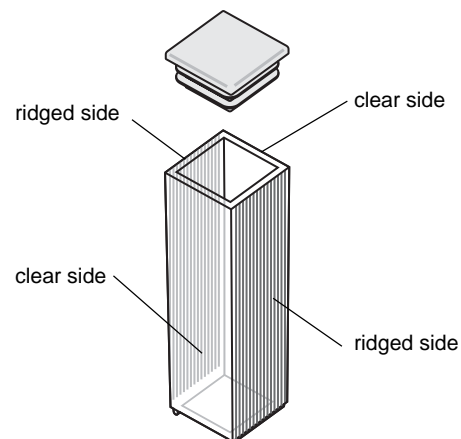

Figure 2
- Handle cuvettes only by the top edge of the ridged sides. See Figure 2.